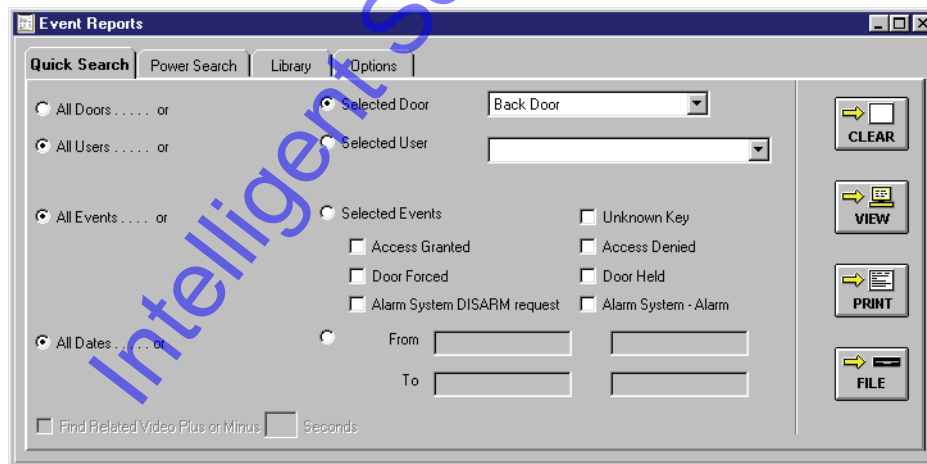

Figure 7-13: Selected Door
3. Scroll through the list and locate the door for which a report is desired. Click on that door name and it will be entered into the selected door field (see Figure 7-13).